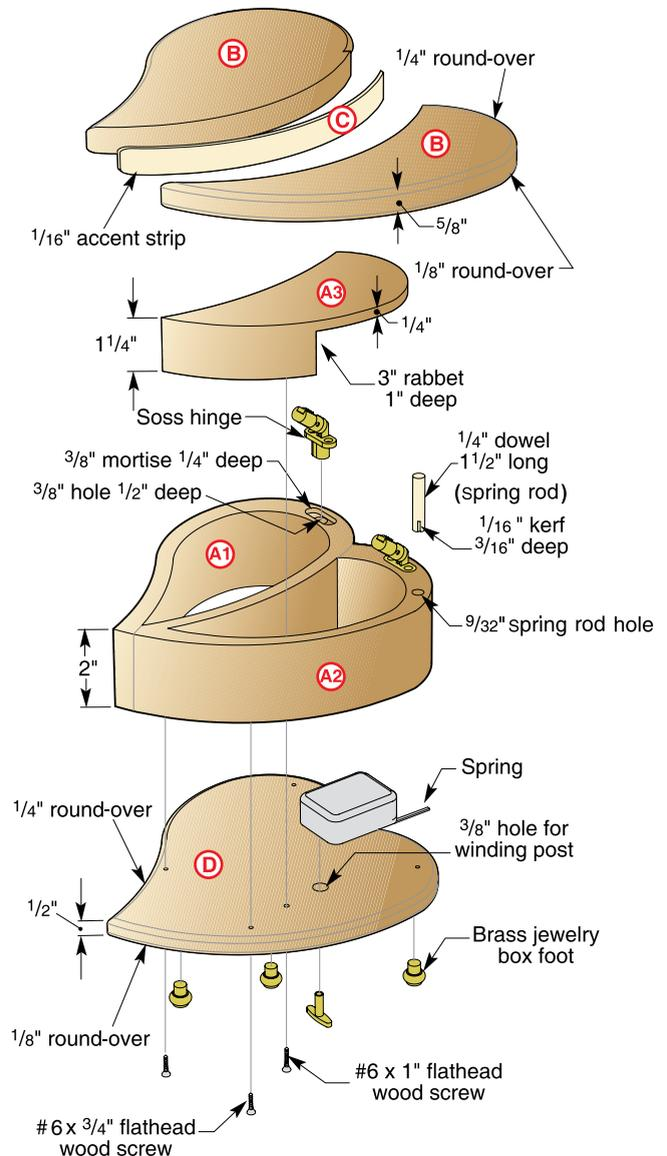

Fig. 1
**1 RESAW PART A3 TO  $\frac{1}{4}$ " THICK,** and bandsaw a rabbet to form a recess for the music box movement. Refer to **Figure 1** and **Photo B**. This surface won't be visible, so there's no need to smooth away the saw marks.
**1 CENTER THE BOX BODY (A) ONTO THE BASE (D)**, and clamp these parts together. Using the countersunk shank holes as guides, drill  $\frac{7}{64}$ " pilot holes  $\frac{3}{8}$ " deep into the box body. Drive the  $\#6 \times \frac{3}{4}$ " screws to secure the base.
**2 TEST-FIT THE MUSIC BOX MOVEMENT** into the box body (A), and trim the spring arm with wire cutters to fit into the channel notch below the spring rod hole. Also ensure that the winding post is centered in the hole in the base (D). Drill  $\frac{7}{64}$ " pilot holes, and screw the movement to the base with two  $\#4 \times \frac{1}{2}$ " screws.
**3 CUT A  $\frac{3}{16}$ "-DEEP KERF INTO THE END OF A  $\frac{1}{4}$ " DOWEL**, where shown in **Figure 1**, using a fine dovetail saw. Fit the dowel into the spring rod hole, engaging the kerf with the spring arm on the music box movement. With the lid open and no downward pressure on the rod, wind the movement and let it play. Slowly press down on the rod until the movement stops completely. Make a pencil mark on the dowel  $\frac{1}{16}$ " above the surface of the box body. Cut the dowel to length, and re-insert it to check its action.